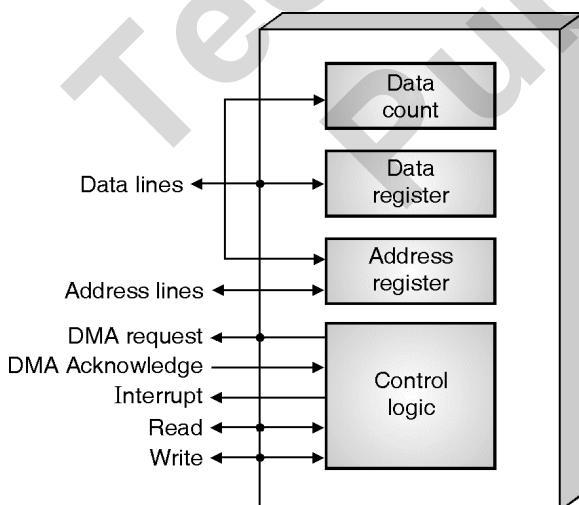

Fig. 11.13.3 : Internal block diagram of DMA controller
- The internal block diagram of a DMA controller of the I/O module for DMA method of I/O interfacing is shown in the Fig. 11.13.3.
- In Fig. 11.13.3, you will notice that there are various registers like data count, data register and address register.
- Also you will note in the Fig. 11.13.3 the read and write signals are bidirectional.